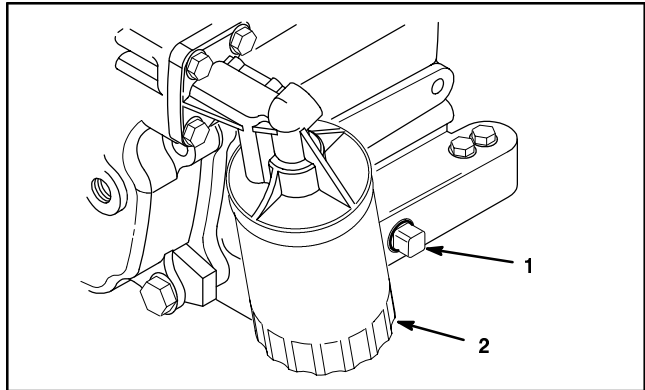

Figure 4
5. Remove drain plug and let the oil flow into a drain pan. When the oil stops, reinstall the drain plug (Fig. 4).
2. Remove existing oil filter (Fig. 4). Apply light coat of clean oil to the new filter gasket.